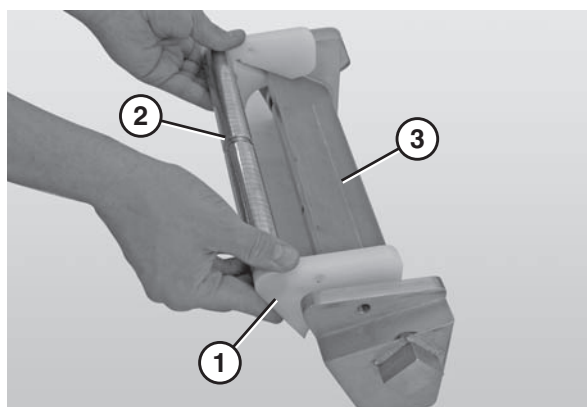

Figure 79
5. Slide the nose bar puck holders (**Figure 79, item 1**) and the nose bar spindle (**Figure 79, item 2**) off of the nose bar weldment (**Figure 79, item 3**).